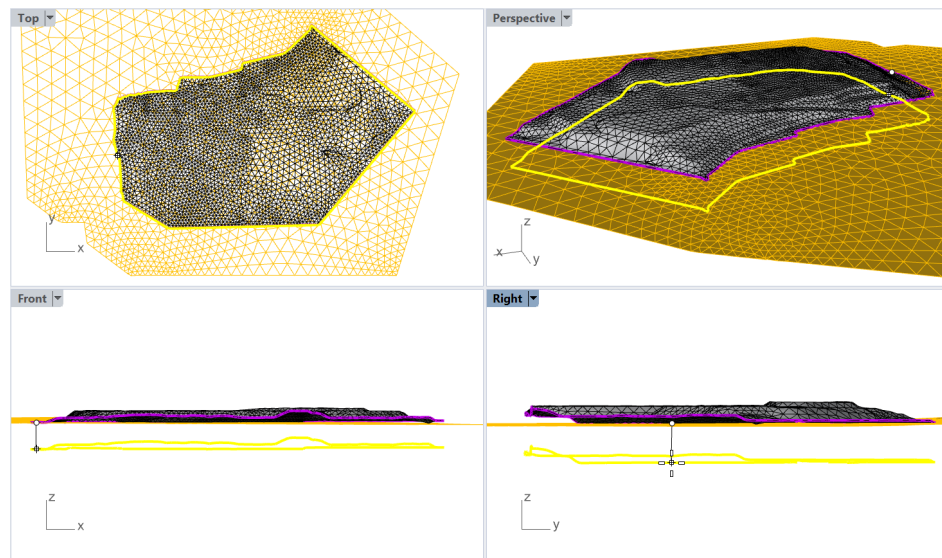
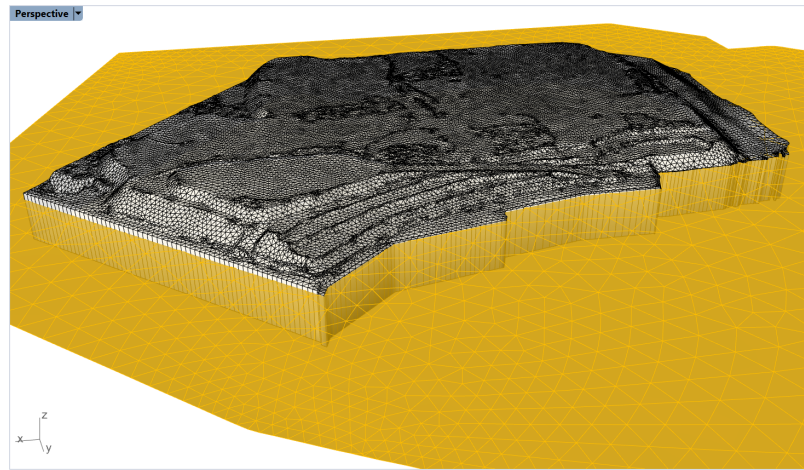

Figure 80: Extension of the pit dump mesh downward along its boundary (*FreeExtend* mode).
Figure 81: Extended pit dump mesh fully intersecting topo mesh.
16. Select the pit dump mesh and use **_GExtend → FreeExtend** option. The mesh boundary will be highlighted in magenta; select the whole boundary (**Ctrl+A**) and press **Enter**. Now the boundary can be dragged to a desired location, and the mesh will be extended to the new boundary. While the cursor is in drag mode, move it to *Front* or *Right* viewports (Figure 80). Then press and hold **Shift** and drag the mouse to position it under the topo mesh as in Figure 80. When the whole boundary is below the topo mesh, release the mouse button. This will extend the dump mesh along its boundary strictly downwards (Figure 80, Figure 81).